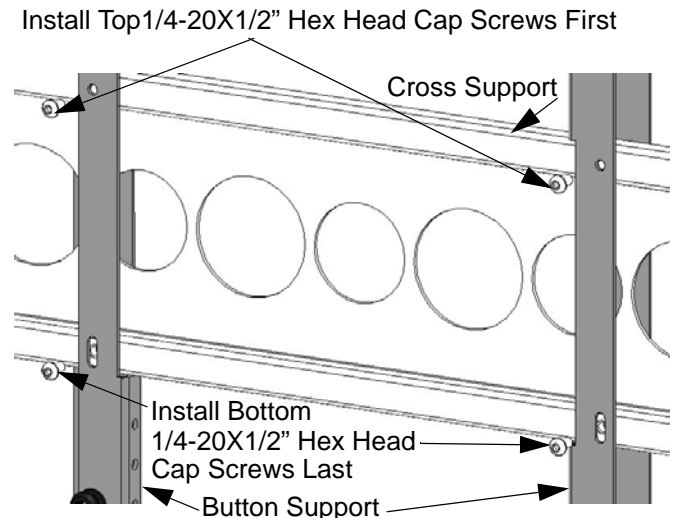

Figure 4. Button Supports to Cross Support
2. Install left speaker mount button support (20) and right speaker mount button support (30) on speaker mount cross support (10) and secure using four 1/4-20X1/2" hex head cap screws (150) (see Figure 4). **NOTE:** Installing screws on top first makes installing screws in slotted holes on bottom last is easier.